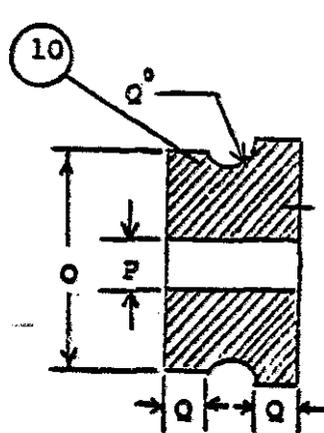

FIGURE 9
- a. Preferred method, if use of lathe is possible, Figure 9 cross-section view: fabricate sheaves (10) as shown.